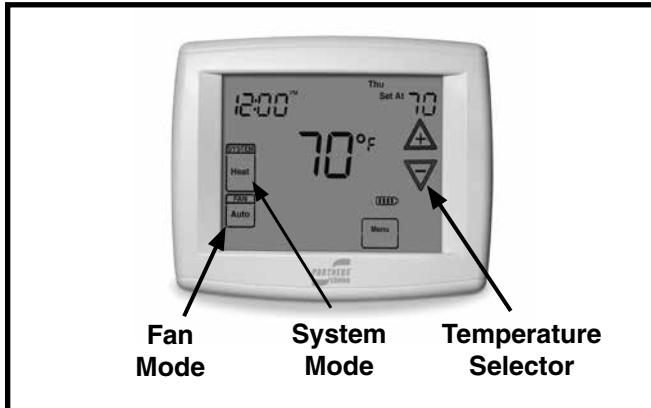

Figure 1. Digital Thermostat
1. Set the thermostat's system mode to COOL or AUTO and change the fan mode to AUTO. See Figure 1 \(page 4\).
1. Set the thermostat's system mode to HEAT or AUTO and change the fan mode to AUTO. See Figure 1.
Set the thermostat fan mode to ON (Figure 1). The indoor blower starts immediately, and will run continually until the fan mode is reset to AUTO.
Change the thermostat's system mode to OFF and the fan mode to AUTO. See Figure 1. **NOTE:** The system will not operate, regardless of the temperature selector setting.